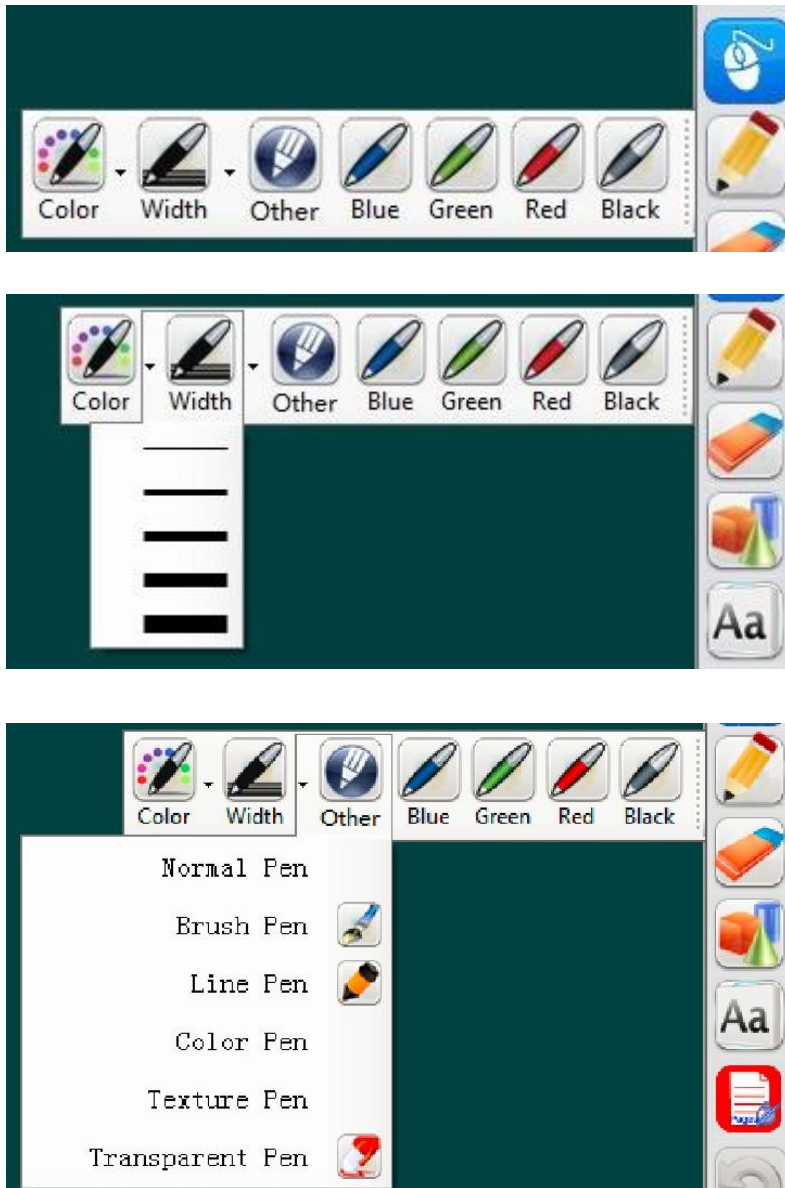

Fig 3.2.2
4) Pen button , see menu as fig3.2.2, choose different pen and set up